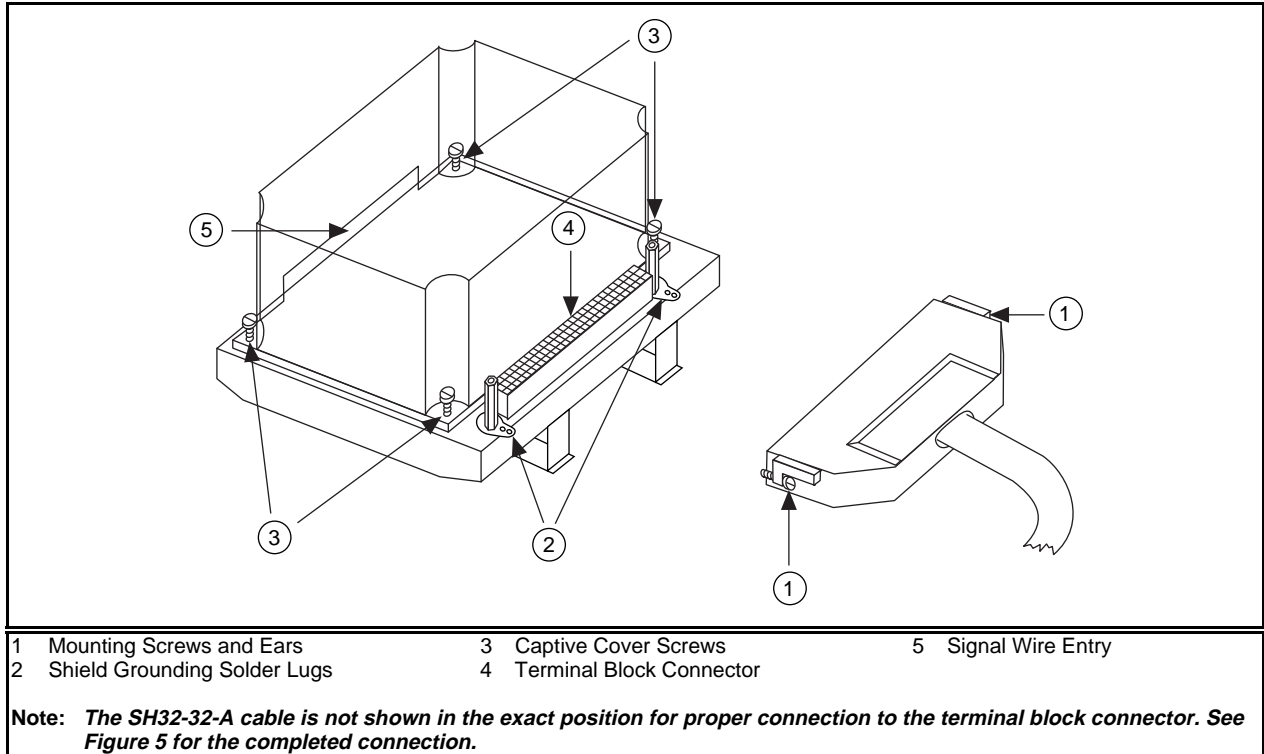
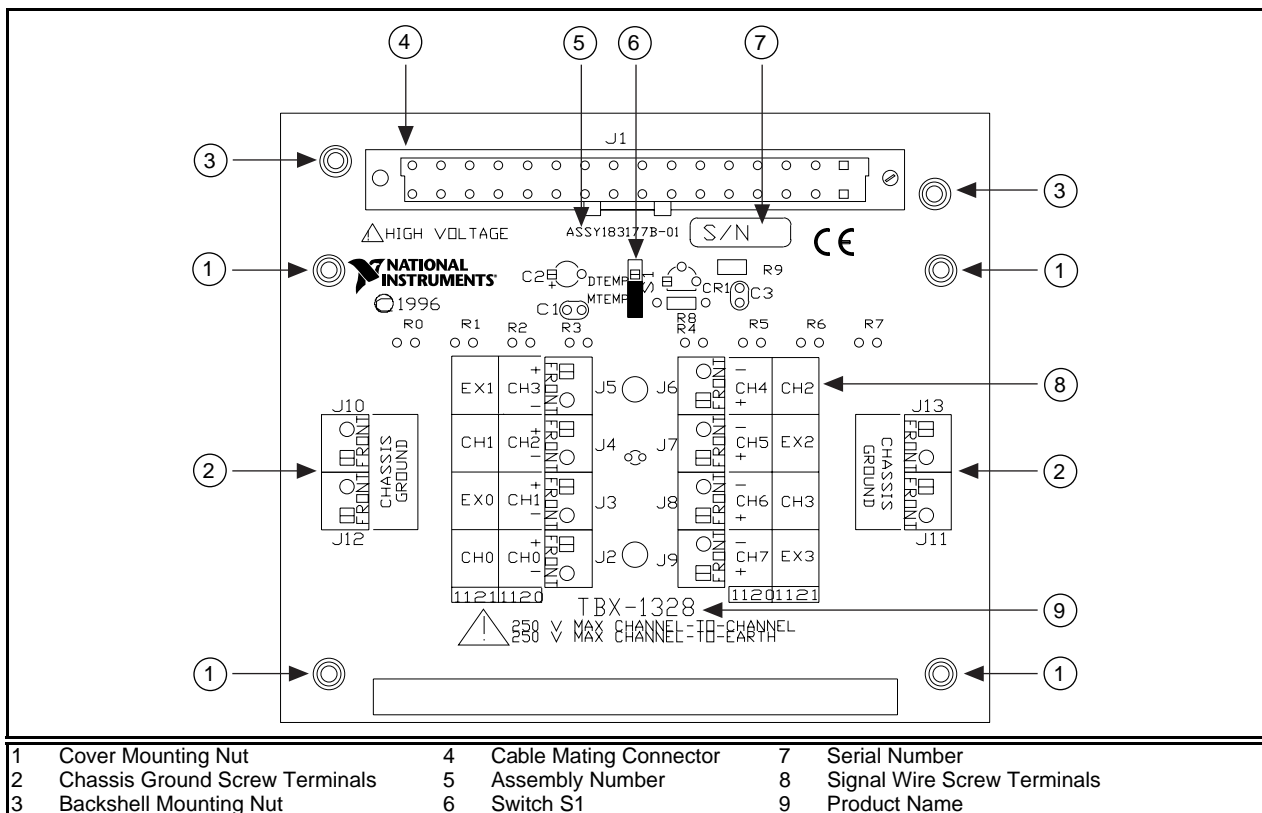

Figure 4. Connecting the SH32-32-A Cable to the TBX-1328 Terminal Block
Figure 6. TBX-1328 Terminal Block Parts Locator Diagram
13. Connect the other end of the cable assembly to your TBX-1328 terminal block connector and secure the SH32-32-A cable by tightening both backshell mounting screws. See Figure 4.
To connect your field signals to the TBX-1328 terminal block for use with the SCXI-1120 or SCXI-1121, follow the labeling on the TBX-1328 indicated along the appropriate SCXI module type column as shown in the parts locator diagram, Figure 6. Refer to Figures 4 and 6 as you perform the following instructions:
The installation and signal connection are now complete. Figure 6 shows the TBX-1328 parts locator diagram.